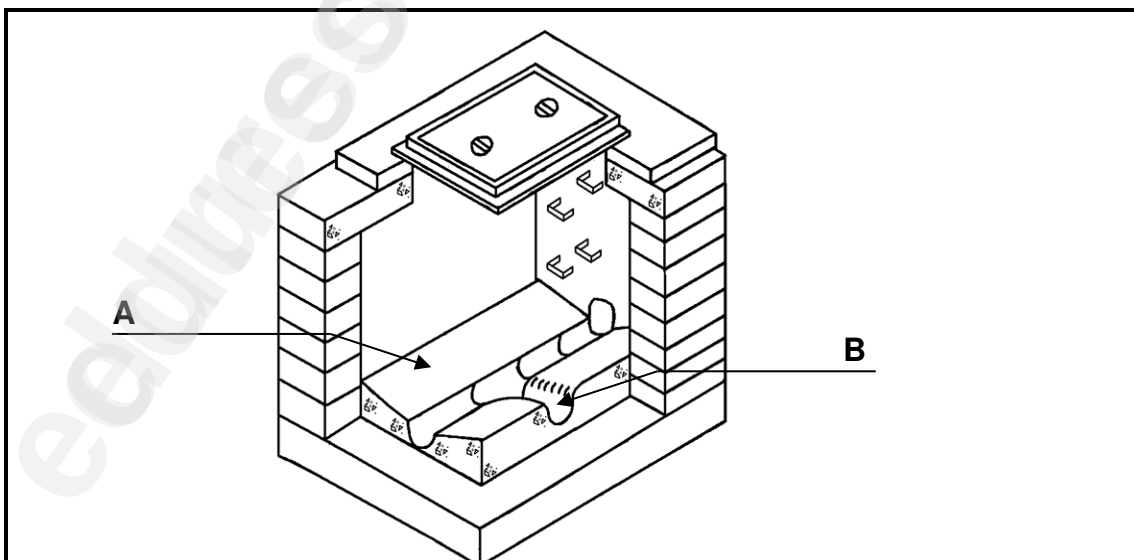

FIGURE 3.6
- The difference between the ...3.5.1 ... potential of the two metals. (1)
- Contact resistance at the ...3.5.2 ... between the two metals. (1)
- Electrical resistance of the ...3.5.3 ... solution. (1)
- The presence of a ...3.5.4 ... film. (1)
3.6 Answer the following questions with regard to the structure in FIGURE 3.6.